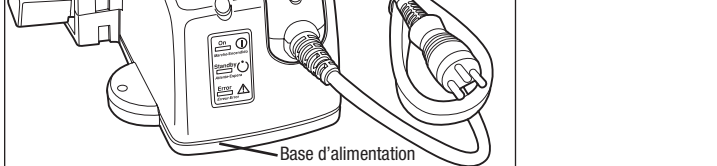

Fig. 1 – Chargeur intelligent BC-210 3M™
- Plug the receptacle end of the charger power cord into the side of the 3M™ Smart Battery Charger BC-210 and the prong end of the power cord into an appropriate electrical outlet (Fig. 1). The charger will automatically detect and self-adjust to input voltages of 100 to 240 volts and frequencies of 50 to 60 Hz.